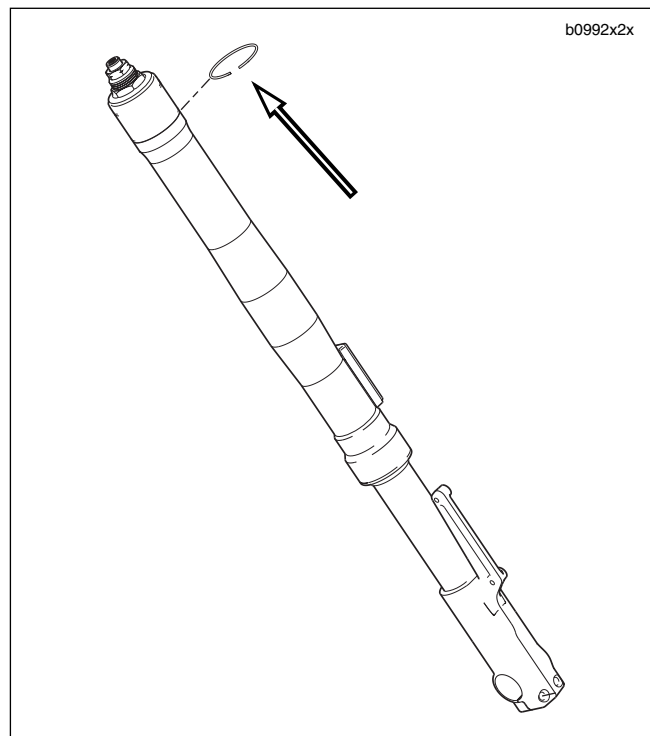

Figure 2-63. Stopper Ring
5. See Figure 2-63. Remove fork from upper fork clamp and slide the stopper ring up and over the top of the fork.